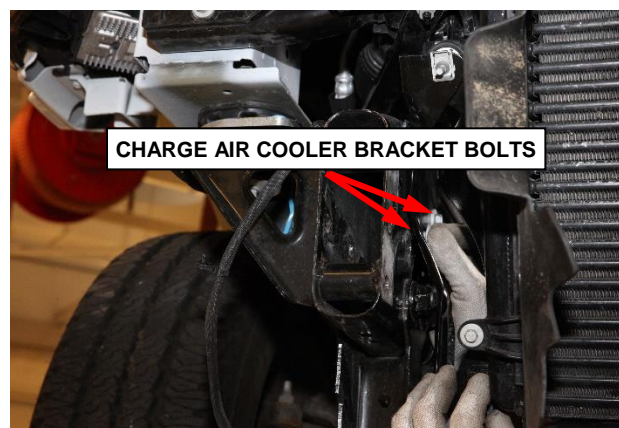

Figure 13 – Charge Air Cooler Bracket
22. If equipped, remove two bolts from one side of the charge air cooler bracket. Slightly lower the charge air cooler (Figure 13).